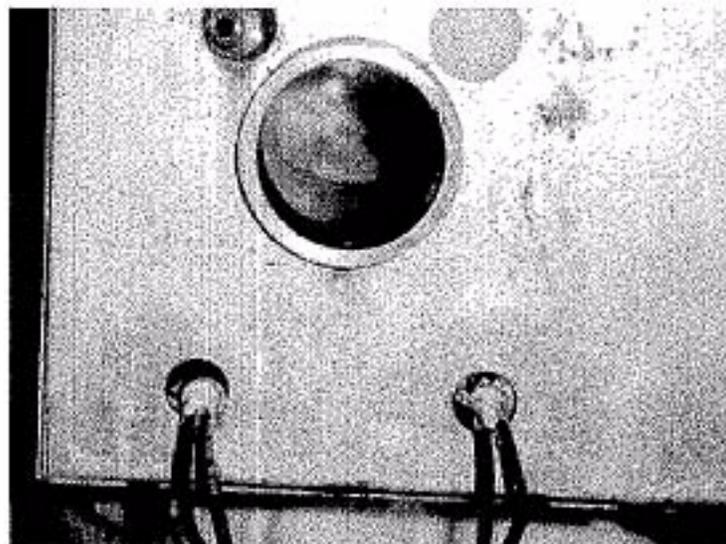

Figure 3. Completely Seal End of Heater and Heater Well
12. Apply RTV162 silicon sealant liberally to the end of the heater and well. Be certain that the end of the heater well is completely sealed (Figure 3).